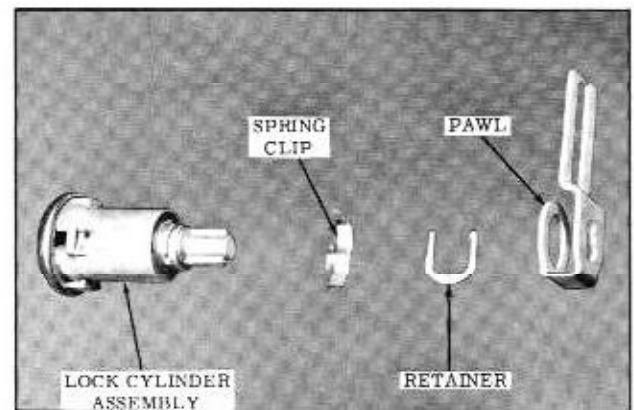

Fig. 15-35 Rear Cylinder Assembly
2. With a suitable tool, through inner panel access hole, slide lock cylinder retaining clip forward sufficiently to allow removal of cylinder, then remove cylinder and gasket. (Fig. 15-35)